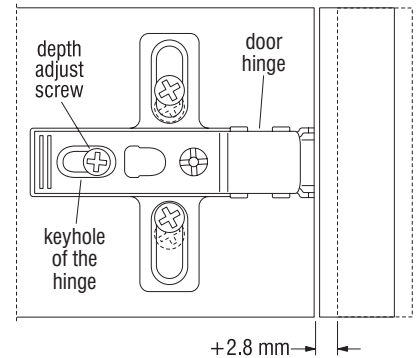

Figure 12 - Door Depth Adjustment
17. For **door depth adjustment**, first loosen the depth adjust screw, then slide the key hole of the hinge to the desired location. Re-tighten the screw (Figure 12).